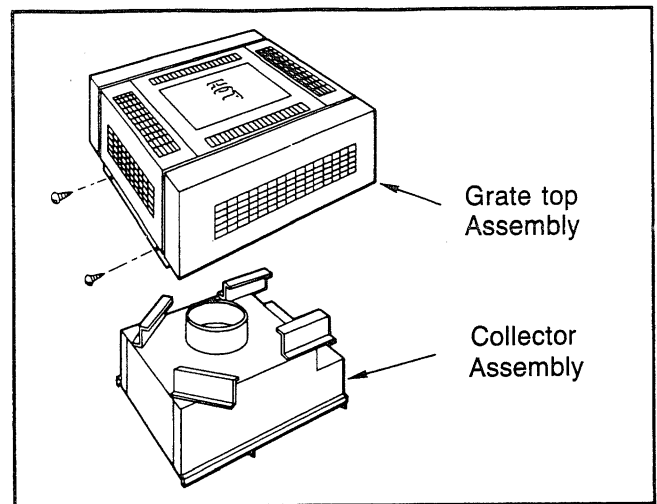

Figure 1. Top Assembly
3. Remove the hex-head screws shown in Figure 1 and lift the grate top assembly straight up.